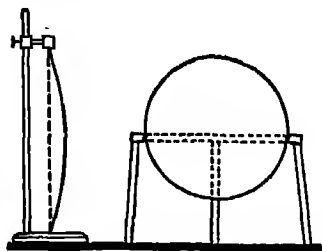

FIG. 210. The expansion of solids on heating,
**Expt. 257.** Fasten a long steel knitting needle to a clamp, as shown in Fig. 210, so that it cannot increase in length without bending. Now heat the needle with a bunsen burner. The needle bends. Allow the needle to cool. It becomes straight again.
on cooling it contracts. While cooling on the ring, some of the heat passes to the ring which becomes hotter and expands (Fig. 210).